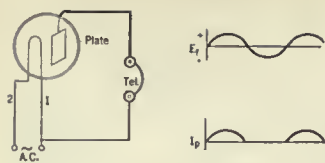

FIG. 4
**L**ET us now consider a two-element vacuum tube connected as shown in Fig. 4. The filament of the tube is excited by a. c. The plate is connected through a telephone or other indicating device to one leg of the filament without any external source of potential included in its path. If we listen at the telephone in this circuit, we will hear a humming noise in which a trained hear can discern a mixture of tone frequencies including 60 cycles, 120 cycles, and
Possibly the best explanation is that there is a bicyclic variation in initial emission velocity. We know that when a cathode is heated, it allows a freer swing to the natural vibration of the electrons within it and we know that the higher the temperature of the cathode, the greater the velocity of emergence of the electrons liberated by the heating. If then the temperature of the cathode is varying under the varying heat-producing electric current, the velocity of emergence will vary. Consequently the plate electrode, with no attractive force of its own for these electrons, will receive a mild bombardment of them which varies (in number of electrons striking it) with their emission velocity. We see, therefore, according to this explanation, that electrons reach the plate through no attractive force of its own and with a bicyclic variation following the temperature variations of the filament itself. This temperature effect, along with the effects of the voltage on the plate due to the latter's connection with one side of the filament, as shown in Fig. 4, occur simultaneously. We should not forget in this connection that the positive voltage of one leg of the filament is attempting to equalize the emission reaching the plate by stealing from the negative leg a portion of the excess electrons liberated at the periods of higher temperature. That is, while the negative leg tends to emit more electrons, due both to its